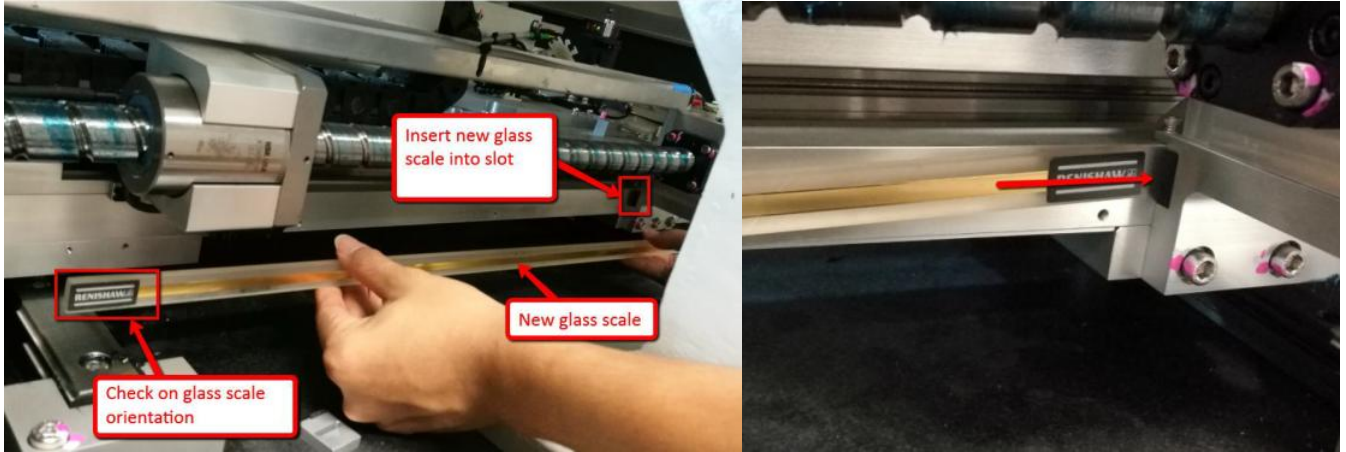

Figure 5 Glass scale assembly
1. Insert X-Axis glass scale into slot as shown in Figure 5.